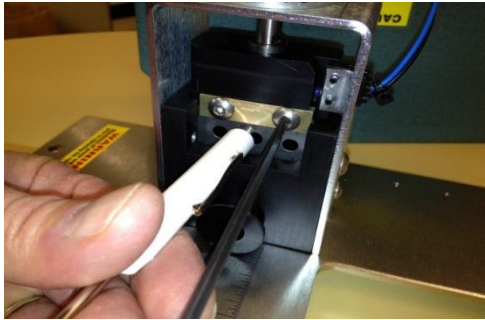

Figure 5.2.1
- Ensure Air supply has been disconnected from the unit prior to removing the cover. Remove the two (2) button head cap screws securing the cover to the base plate using a 1/8 hex key. Lift cover out of the way.
- Place a magnetic tip screwdriver (*provided*) on the cutter blade, then remove two (2) mounting screws using a 3mm hex key wrench. (*T-handle preferred*) *Figure 5.2.1,5.2.2*